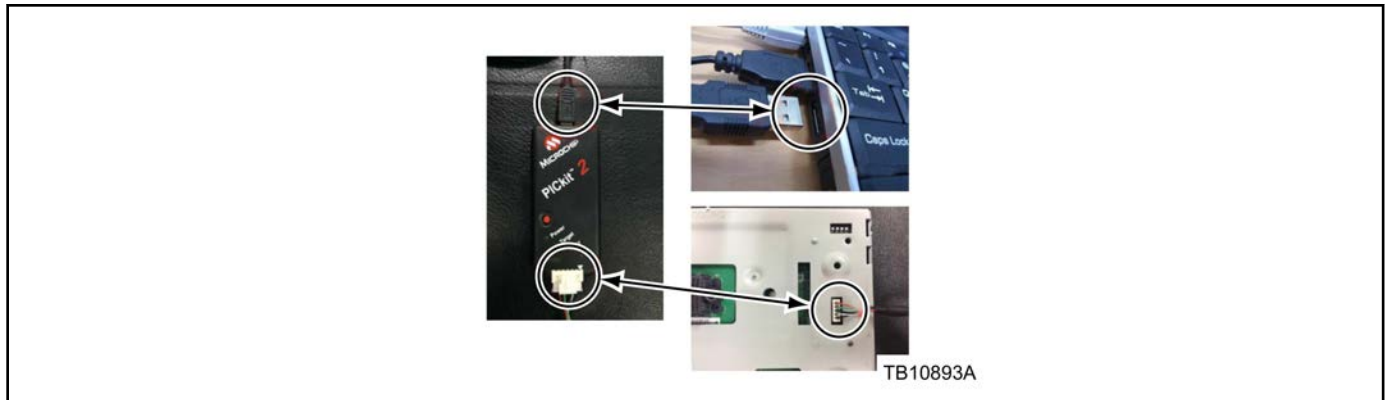

Figure 7 - Article 16-0066
- c. Connect the emulator harness from the DM8 kit to the back of the FDIM. (Figure 7)